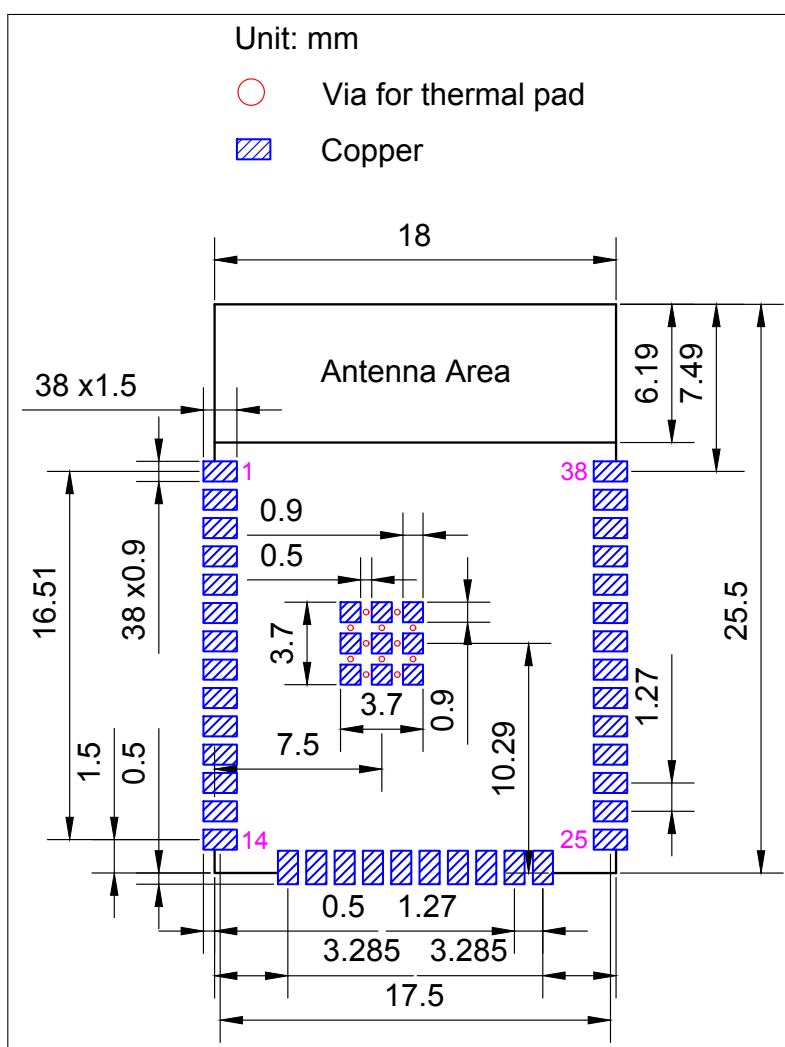
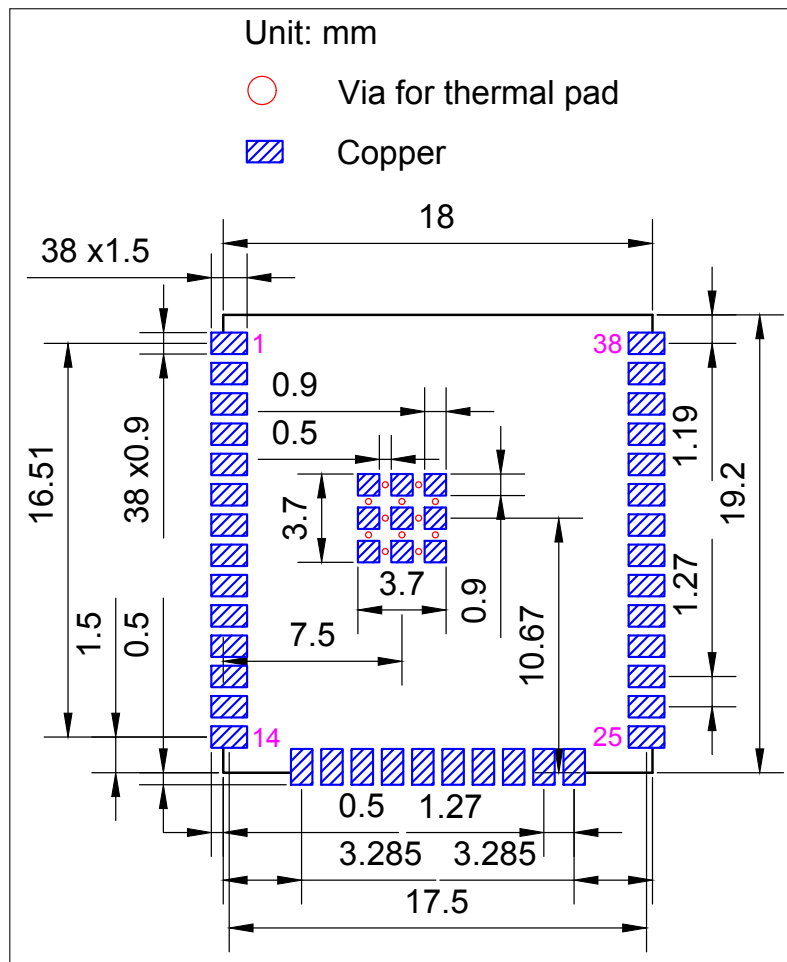

Figure 13: ESP32-WROOM-32E Recommended PCB Land Pattern
Figure 14: ESP32-WROOM-32UE Recommended PCB Land Pattern
- Figures for recommended PCB land patterns with all the dimensions needed for PCB design. See Figure 13 *ESP32-WROOM-32E Recommended PCB Land Pattern* and Figure 14 *ESP32-WROOM-32UE Recommended PCB Land Pattern*.
- Source files of recommended PCB land patterns to measure dimensions not covered in Figure 13 and Figure 14. You can view the source files for ESP32-WROOM-32E and ESP32-WROOM-32UE with Autodesk Viewer.